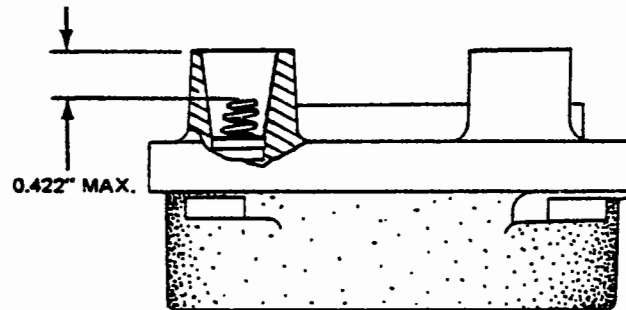

Figure 74-1. Height of Spring in Distributor Block Tower.
6. Examine the contact points for excessive wear or burning. Figure 74-1 shows how the average contact point will look when surfaces are separated for inspection.
Desired contact surfaces have a dull gray, sand-blasted (almost rough) or frosted appearance, over the area where electrical contact is made. This means that points are worn in and mated to each other, thereby providing the best possible electrical contact and highest efficiency of performance. Minor irregularities or roughness of point surfaces are not harmful. (Refer to Figure 74-1, center.) Neither are small pits or mounds, if not too pronounced. If there is a possibility of pit becoming deep enough to penetrate pad (refer to Figure 74-1, right), reject contact assembly.